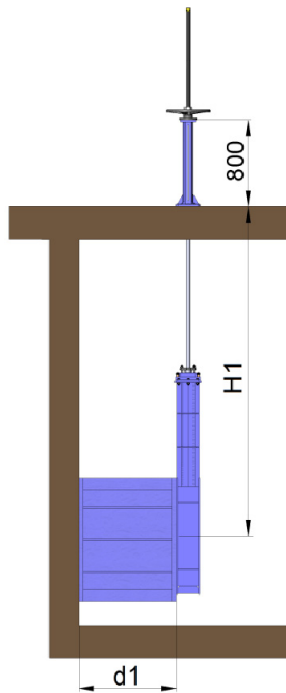

fig. 12
- The standard floor stand is 800 mm high (fig. 12). Other floor stand measurements available on request.